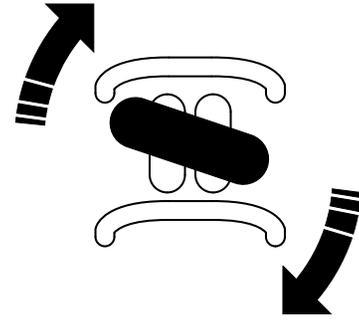

Figure 16
- To turn right, rotate the traction control clockwise (Figure 16).